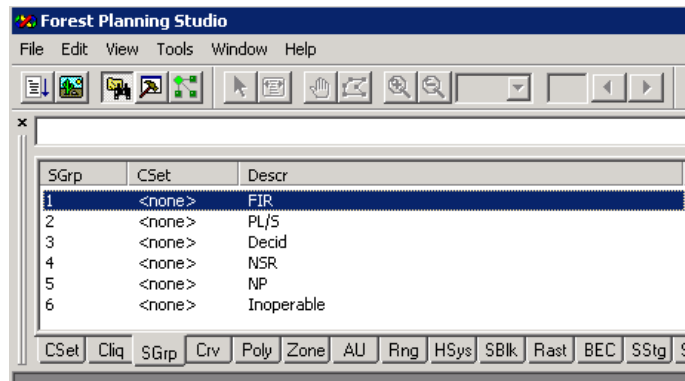

Figure 11: Browser window showing the stand groups in the database
2.3.2 Select the *SGrp* tab at the bottom. There will be all 6 stand groups in the database shown here. The *Browser* window should appear as shown in Figure 11.